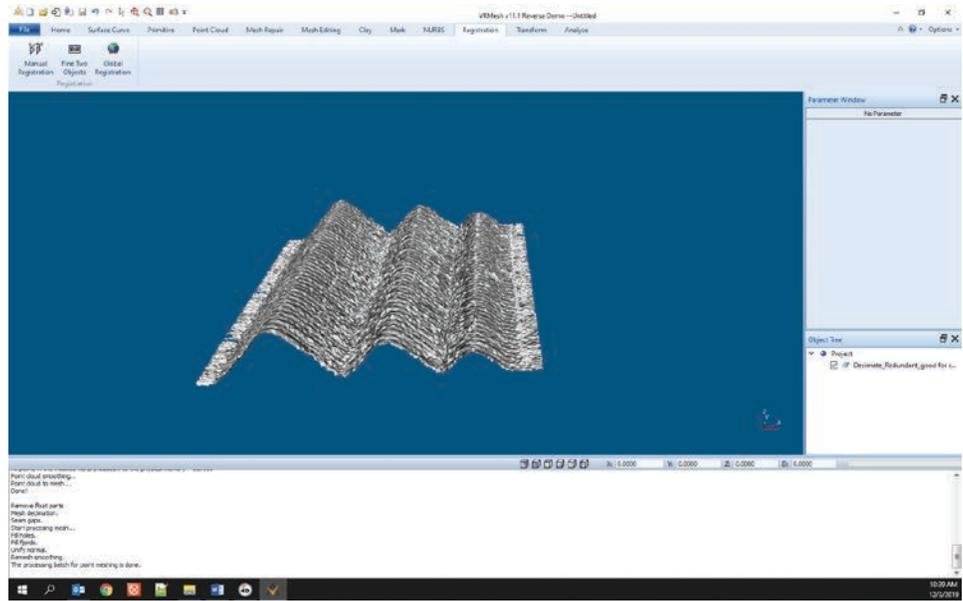

Figure 5. The mesh, after converting the point cloud to mesh.
- The software will display a screen similar to the one in Figure 5, showing a mesh in the middle of the screen, and one item in the object tree to the right. The view options and object positioning are similar to other CAD programs.